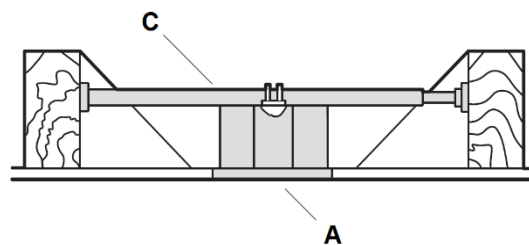

Fig. 4
To hang your fan where there is an existing fixture but no ceiling joist, you may need an installation hanger bar (C) as shown in Fig. 4. Make sure the hanger bar you purchase has been designed for use with ceiling fans.